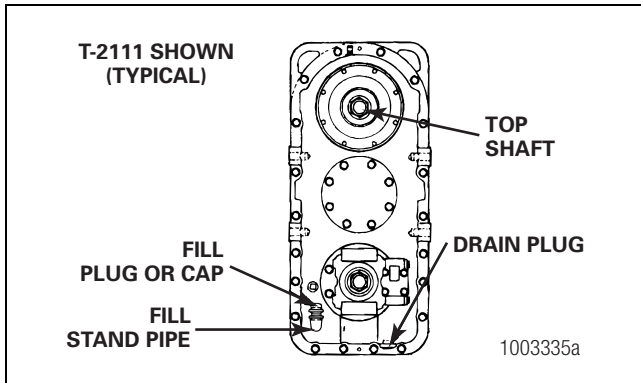

Figure 11.4
2. Clean the area around the fill plug. Remove the fill plug from the transfer case. Figure 11.4. The oil level must be even with the bottom of the fill plug hole.